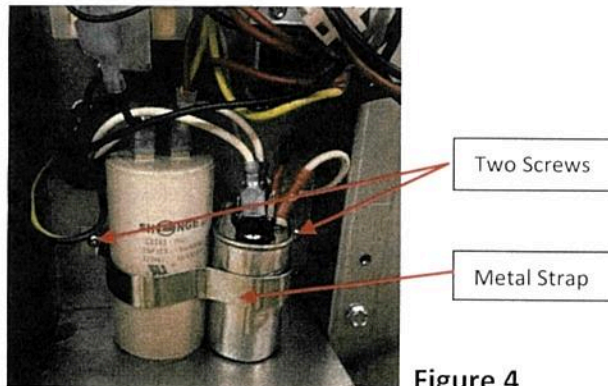

Figure 4
Step 4 – Remove the oval shaped blower capacitor and metal strap by removing the two screws (Figure 4). Disconnect all the wires on the oval shaped blower capacitor.